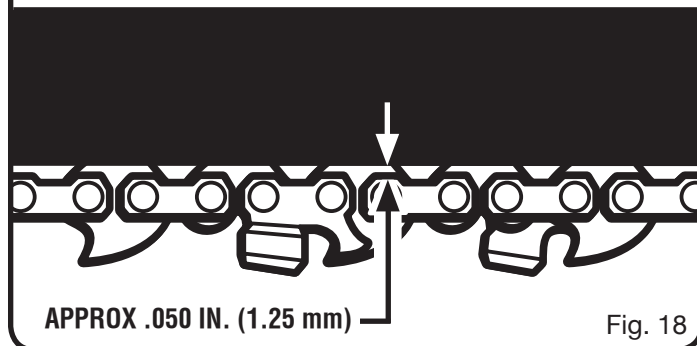

Fig. 18
- During normal operation, the temperature of the chain will increase. The drive links of a correctly tensioned warm chain will hang approximately .050 in. (1.25 mm) out of the bar groove, as shown in fig. 18.